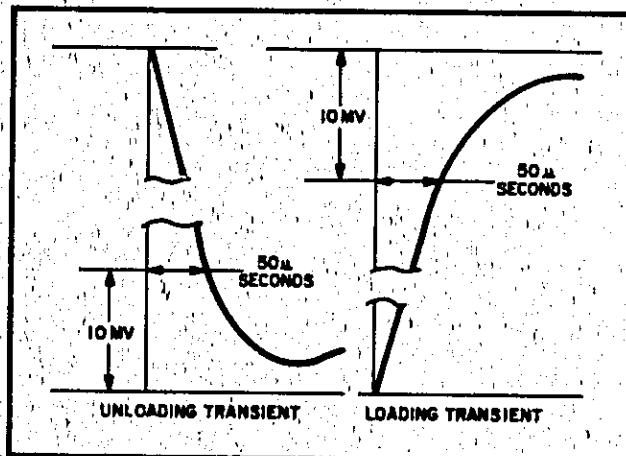

Figure 5-9. Transient Recovery Time, Waveforms
- Adjust 25K₁ potentiometer until a stable display is obtained on oscilloscope. Waveform should be within the tolerances shown on Figure 5-9 (output should return to within 10mV of original value in less than 50 microseconds).